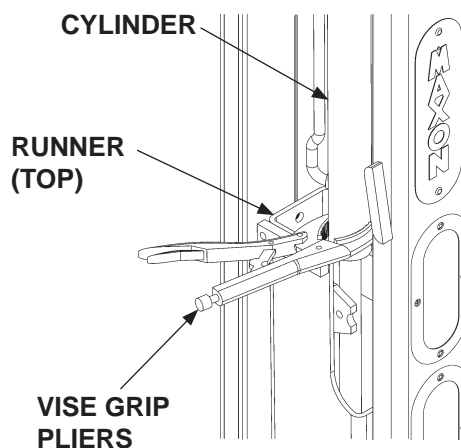

FIG. 27-1
12. Use large round jaw vise grip pliers to clamp cylinder at the top of runner (FIG. 27-1).